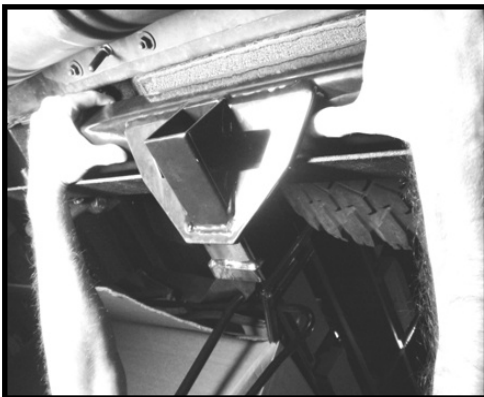

Figure 1.
1. Supporting the tow hitch from below, raise the tow hitch up (Figure 1) between the two sub-frames and slot the hitch in the pre-cut opening in the bumper.